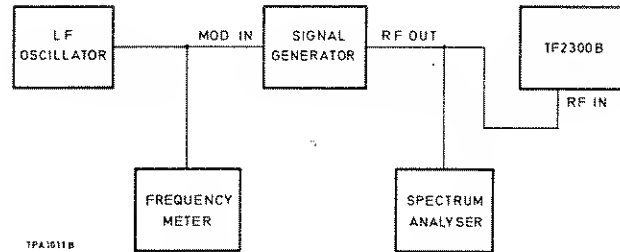

Fig. 4.3 Bessel zero measurement
- (1) Connect the signal generator, externally modulated by the l.f. oscillator, to the inputs of the modulation meter and the spectrum analyser, as shown in Fig. 4.3.